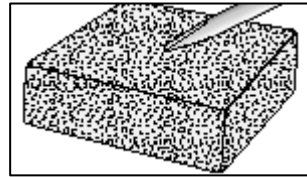

Figure 4: Clean Tip.
6. Clean tip using a damp sponge. (See Figure 4.)